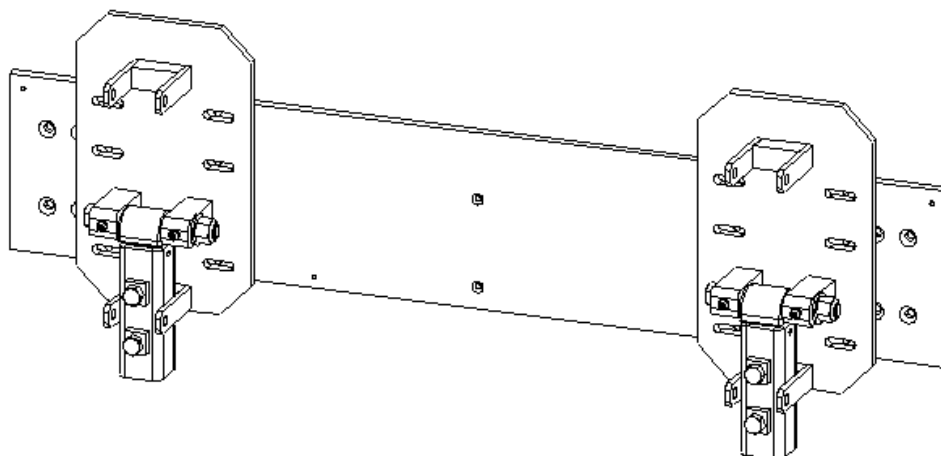

Figure 10 - Mounting Plate with Installed Clapper Boxes
2. The mounting plate and clapper box assemblies may be shipped together and look like Figure 10 below.